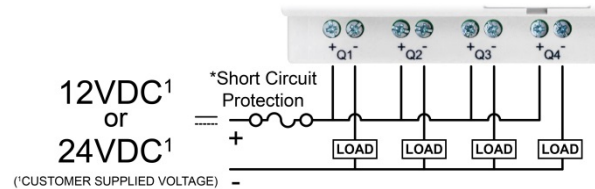

Figure 2
- **Transistor Output (Figure 2):**